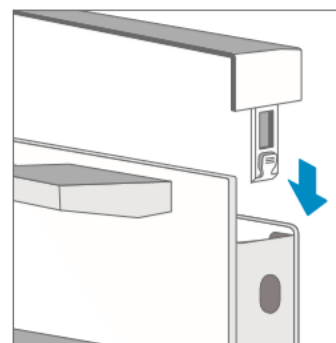

Figure 3: Mounting the cover
3. After removing the door cover, the rest of the appliance door can be easily removed so you can continue cleaning. When the cleaning of the appliance door is complete, replace the cover and press it down until it audibly clicks into place (figure 3);